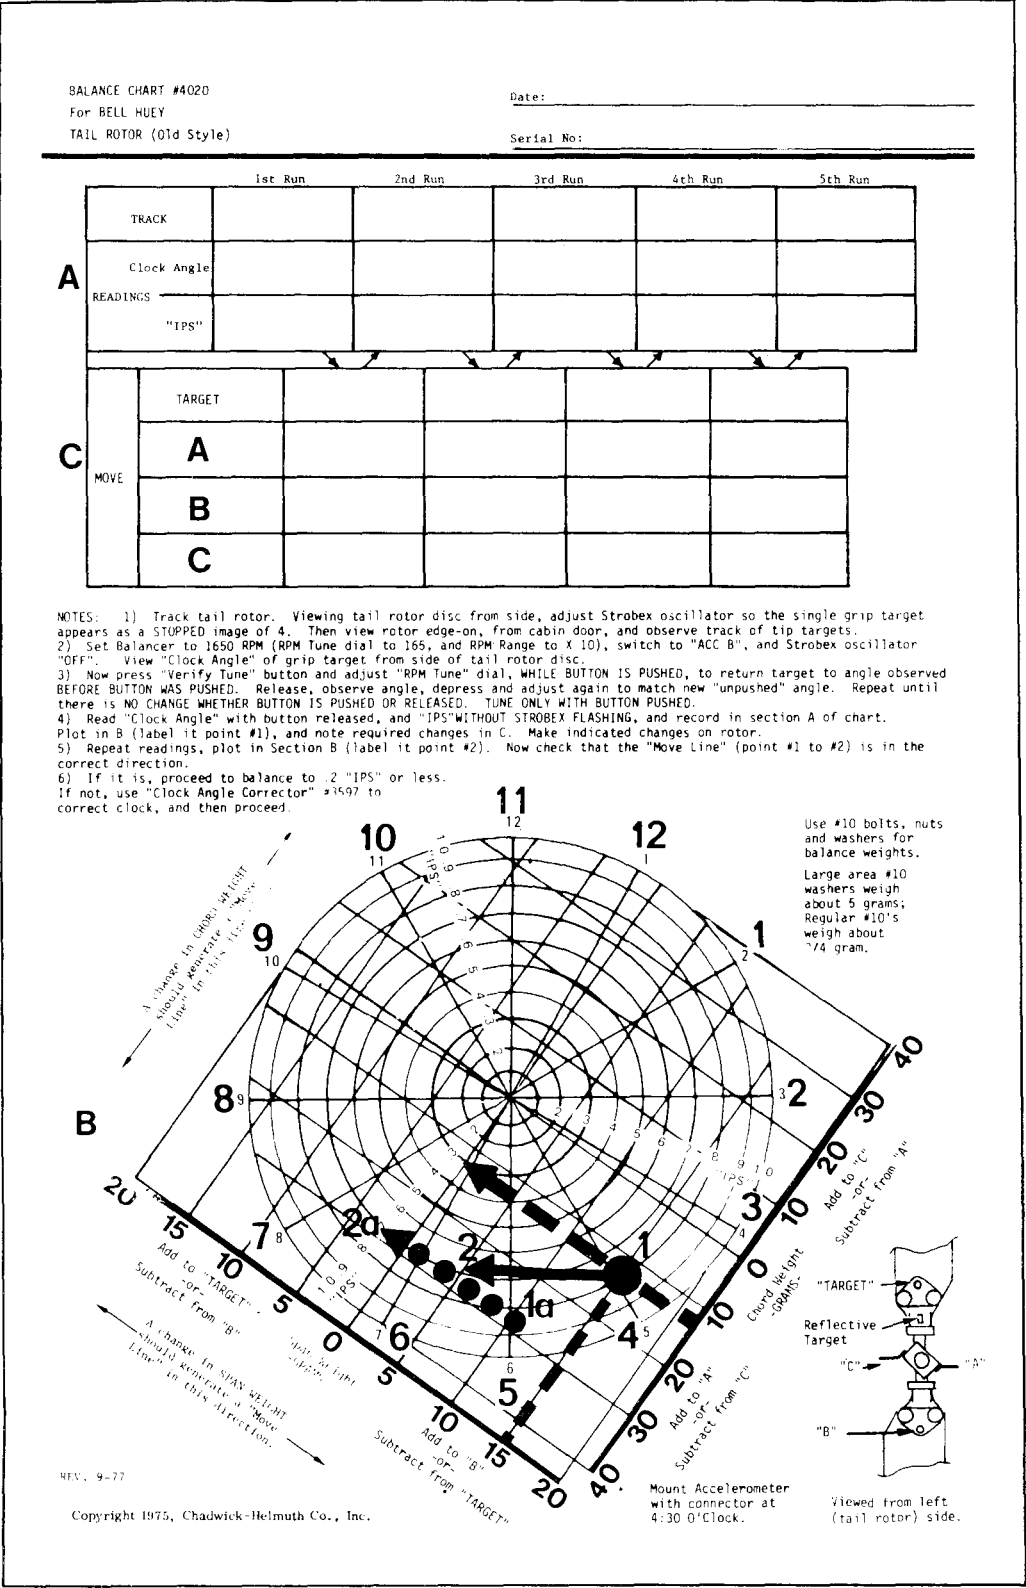

Figure 2-10. Reclocked Chart
- (1) Refer to figure 2-10. If the chart and helicopter are not perfectly matched, the readings might be as follows:
- (2) Assume the same first reading of 5:00 o'clock and 0.8 IPS. Add the same 15 grams at B and nothing at A. This time our second reading is 6:30 o'clock and 0.7 IPS as indicated by point 2 and the move line is not parallel to the span arrow. If we track back to the chord axis (A and C) it indicates that a change was made there however, the change was not actually made. Therefore, there is a mismatch.
- (3) Use Clock Angle Corrector No. 3597 and place eyelet A on the first reading and align index A-C) in the direction the move line should have gone, and swing index A-B in the direction that the move line did go. We now see that we must subtract 1 hour from the clock numbers.
- (4) Then, when the two readings are plotted (1 and 2,) on the corrected chart, we see that the move line is now in the correct direction.
- (5) We can also see that too much weight was added to B because plot point 2 is beyond the zero line. This indicates we need to add about 25 grams to A, rather than the 14 originally shown. Thus, by subtracting about 4 from B, to which the 15 had been added, and adding 25 to A, the balance should be corrected.